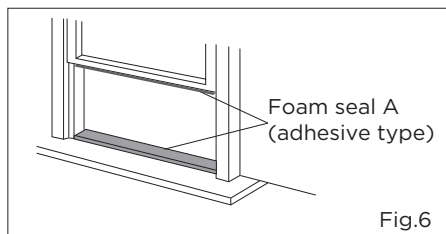

Fig.6
- 1.Cut the foam seals A(adhesive type) to the proper lengths and attach them to the window and stool.(Fig.6)